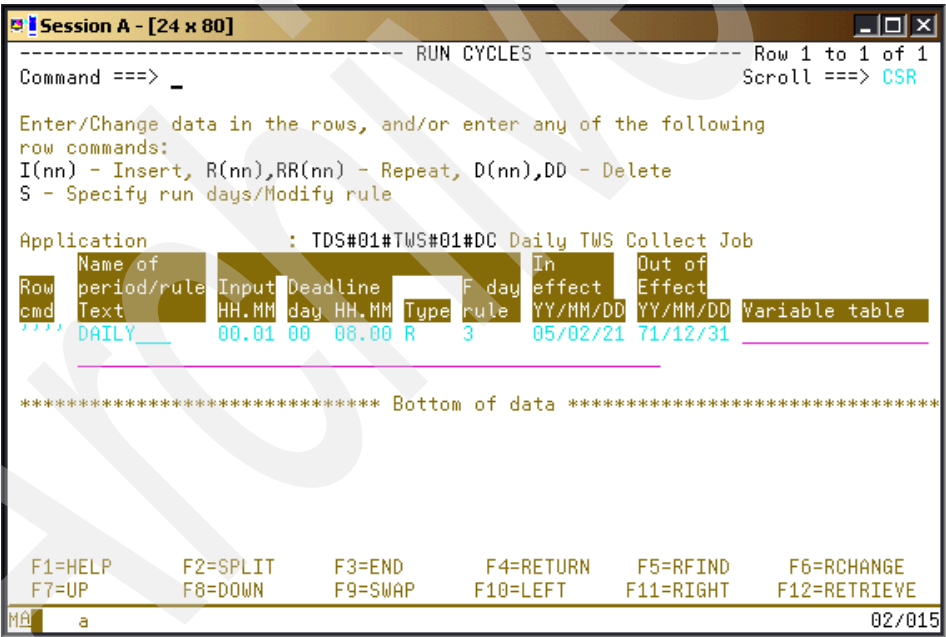

Figure 6-11 Creating the run cycle
1. Enter **RUN** on the command line to open to the RUN CYCLES panel. Complete the fields in this panel with appropriate values according to your installation standards. Figure 6-11 shows the values that we coded.